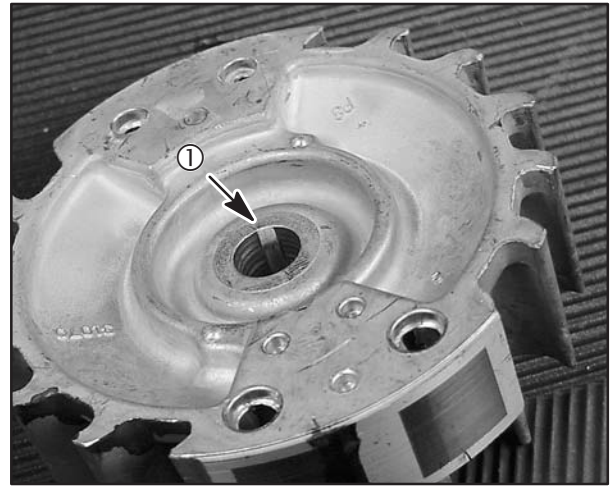

Fig. 21
Check the key (1) for damage. If key is damaged or sheared the flywheel must be replaced, Fig. 21.